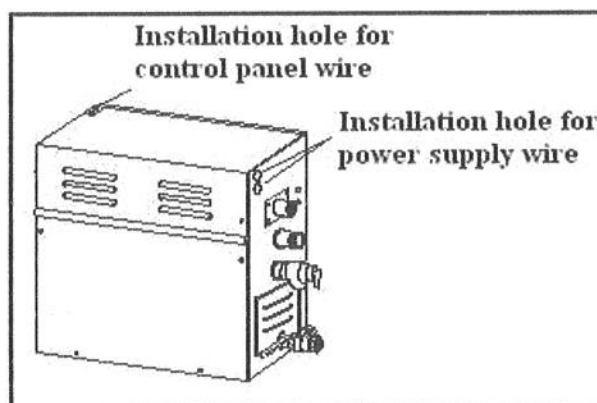

Figure 14
Open the installation hole on the cover of the generator, lead the wire on the back of controller through the installation hole, plug the wire into the socket on the main board.(refer to Figure 14,15,16).
- 1) Open the installation hole on the front cover of the generator (refer to Figure 14).